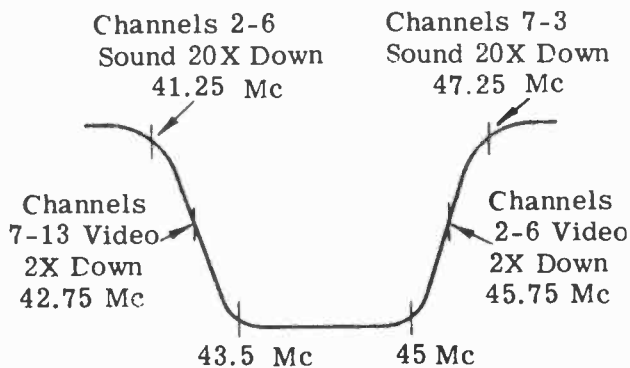
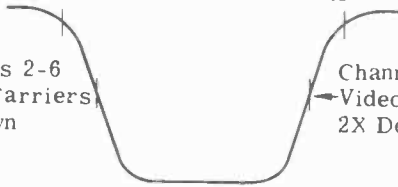

Fig. 34. Over-All Video IF Response.
Fig. 37 RF Response.
3. Feed the sweep generator to the converter grid (terminal "F"). This terminal is near the 6AG5 converter tube. Adjust T2 at 45 Mc and T1 and L58 at 43.5 Mc until a symmetrical overall response curve shown in Fig. 34 is obtained. The 42.75 Mc and 45.75 Mc carrier frequencies should fall at the 50% point on the response curve. A slight readjustment of one or more IF transformers may be necessary if the overall response curve is not similar to the one shown in Fig. 34.
4. Adjust the Mega-Sweep for an RF response curve. (See Fig. 37). Set the Mega-Marker Sr. on channel 7 and observe the picture marker on the response curve. Adjust L59 until the channel 7 picture marker falls at approximately 50% down on the response curve.
3. Adjust the Mega-Sweep and check the RF response curve (See Fig. 37) on each channel. If all the response curves are tilted approximately the same amount, first check the IF response to see that it has a reasonably flat top (See Fig. 34) before an attempt is made to adjust the RF trimmers. If the IF response is correct, set the channel selector switch to channel 4 and adjust the RF grid (C10), RF plate (C11), converter grid (C15) for symmetry and amplitude.